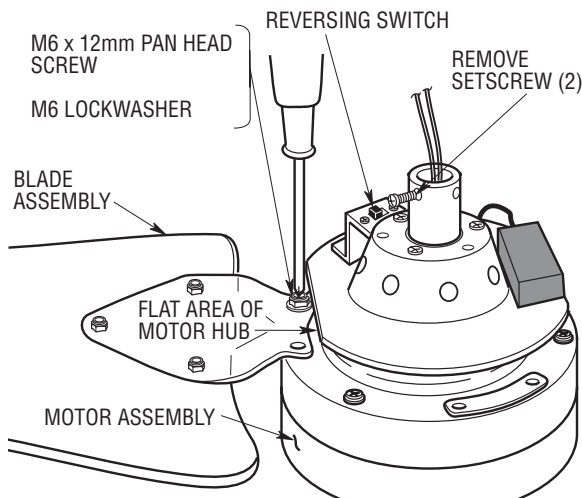

Figure 1
CAUTION: The blade assemblies must be mounted on the motor assembly so that the raised lip edge is facing up (Figure 1).
1. Rotate the motor hub so the notched area is above the screw hole in the motor hub. Install one blade assembly on the top of the motor assembly using two M6 x 12mm pan head screws and two M6 lockwashers (supplied) (Figure 1). Repeat this procedure for the remaining two blade assemblies.
2. Remove the two setscrews from the top of the motor coupler (Figure 1). Retain the setscrews for future use.